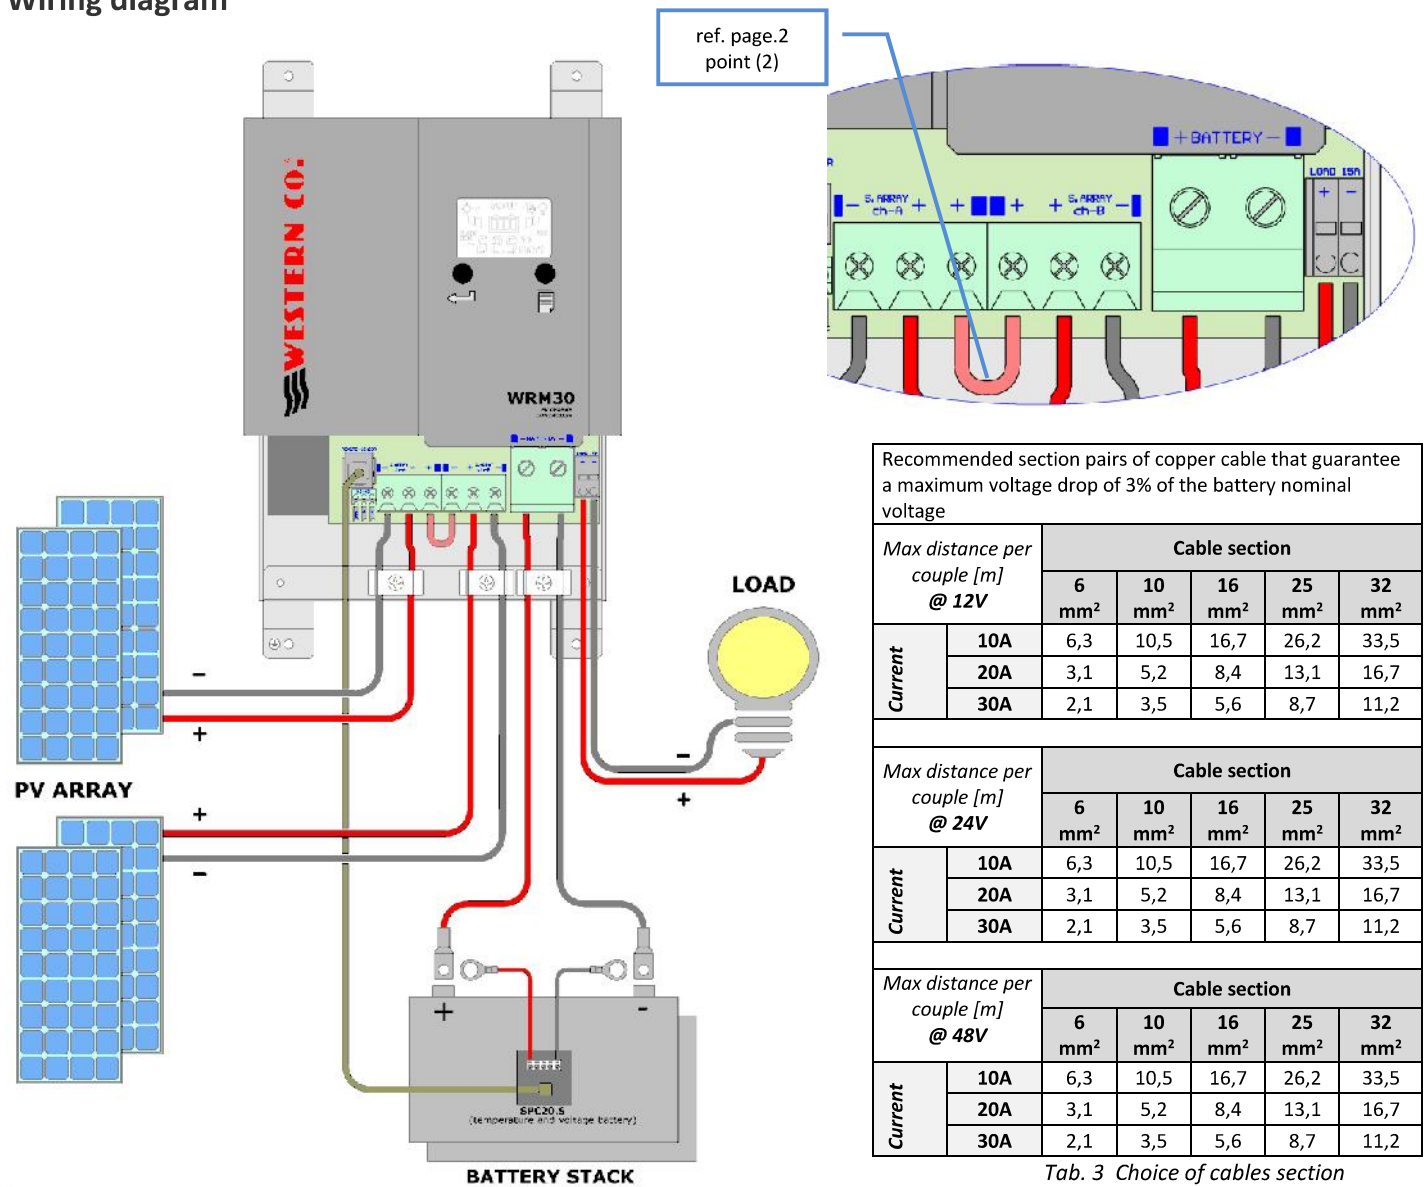

Fig. 2 Wiring diagram
- 3) Connect in the following order: load, sensor for measure of battery temperature and voltage (included), PV module, and finally the battery as in the diagram *fig. 2*. At battery connection, the charge controller turns on and starts to work. The cable sections must be chosen so that in each length of cable the maximum permissible voltage drop is less than 3% of the system nominal voltage (*Tab. 3*)